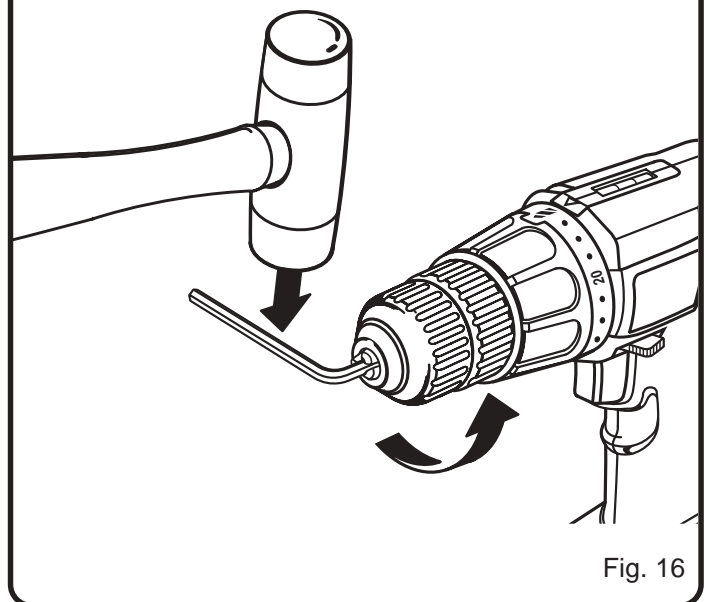

Fig. 16
- Insert the hex key in the chuck and tighten chuck jaws securely. Tap sharply with a mallet in a counterclockwise direction. This will loosen the chuck on the spindle. It can now be unscrewed by hand. *See Figure 16.*
- Insert the hex key into the chuck and tighten chuck jaws securely. Tap the hex key sharply with a mallet in a clockwise direction. This will tighten the chuck on the spindle. *See Figure 16.*